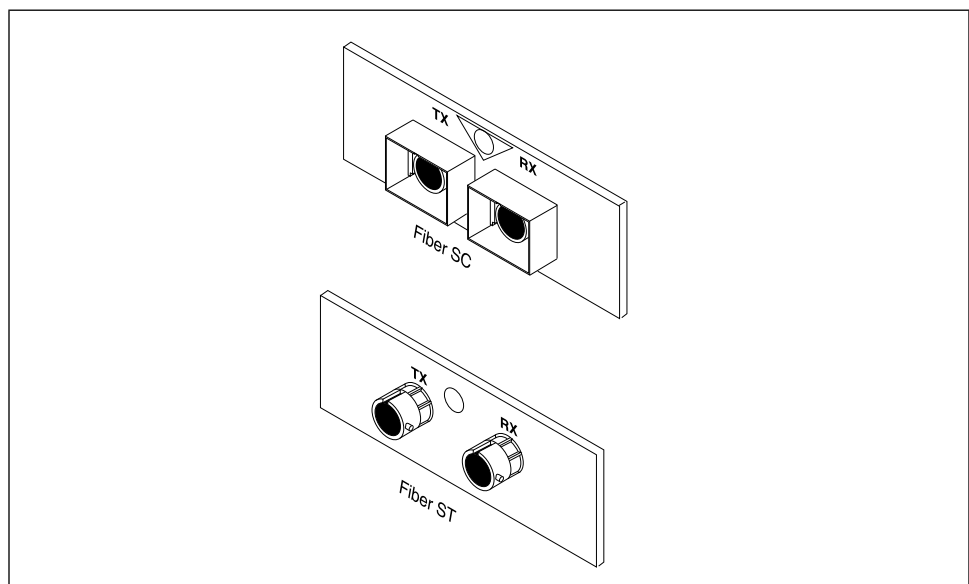

Figure 1: ST and SC Connectors
That is, in addition to the Ethernet-to-ATM fiber optic interface, you have the option of using either Straight Tip (ST) or Subscriber Channel (SC) fiber optic Ethernet-to-Ethernet connectors. Figure 1 shows both connectors.